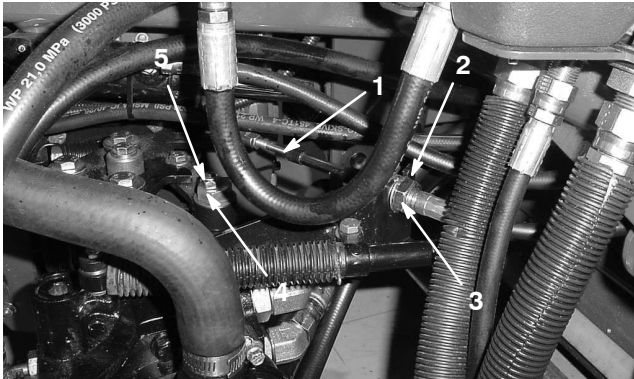

Figure 54
- A. Loosen both jam nuts securing the traction control cable to the bulkhead on the hydrostat (Fig. 54). Make sure the jam nuts are loosened equally and sufficiently to allow adjustment.
Note: Loosen the nut securing the eccentric to the top of the hydrostat (Fig. 54).
- C. Rotate the eccentric until creep does not occur in either direction. When the wheel stops rotating, tighten the nut locking the eccentric and the adjustment (Fig. 54). Verify the adjustment with the throttle in the Slow and Fast position.
- D. From each side of the bulkhead, tighten the locknuts **evenly**, securing the traction cable to the bulkhead (Fig. 54). Do not twist the cable.